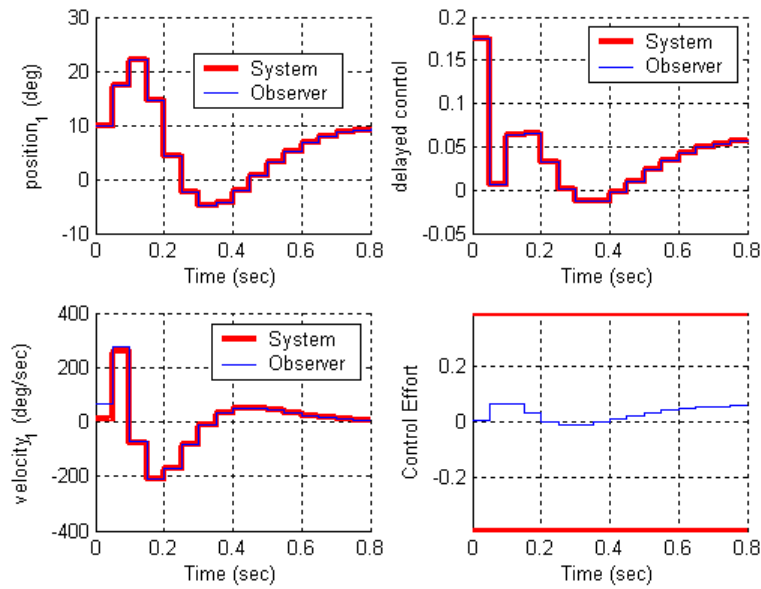

Figure 5. Results for problem 2c.
c) Now assume the same initial conditions as in part **b**, but both the position of the disk and the delayed input signal are known. The observer pole is placed at 0.3 and the sampling interval is still at 0.05. For a 10 degree step input you should get the graph shown in Figure 5. Turn in your plot.